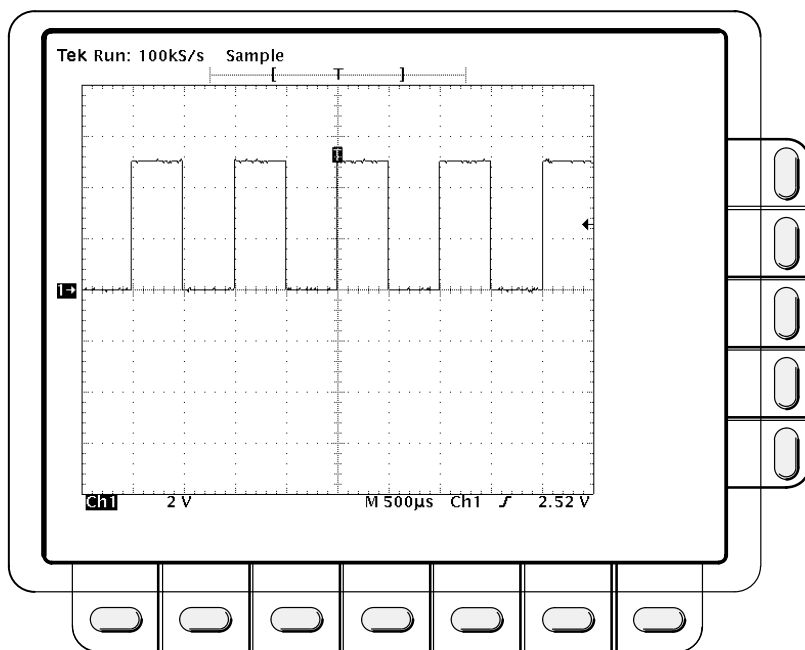

Figure 2-7: Compensation Waveform
2. Press **AUTOSET**. The oscilloscope displays the compensation waveform. It should resemble the waveform shown in Figure 2-7.